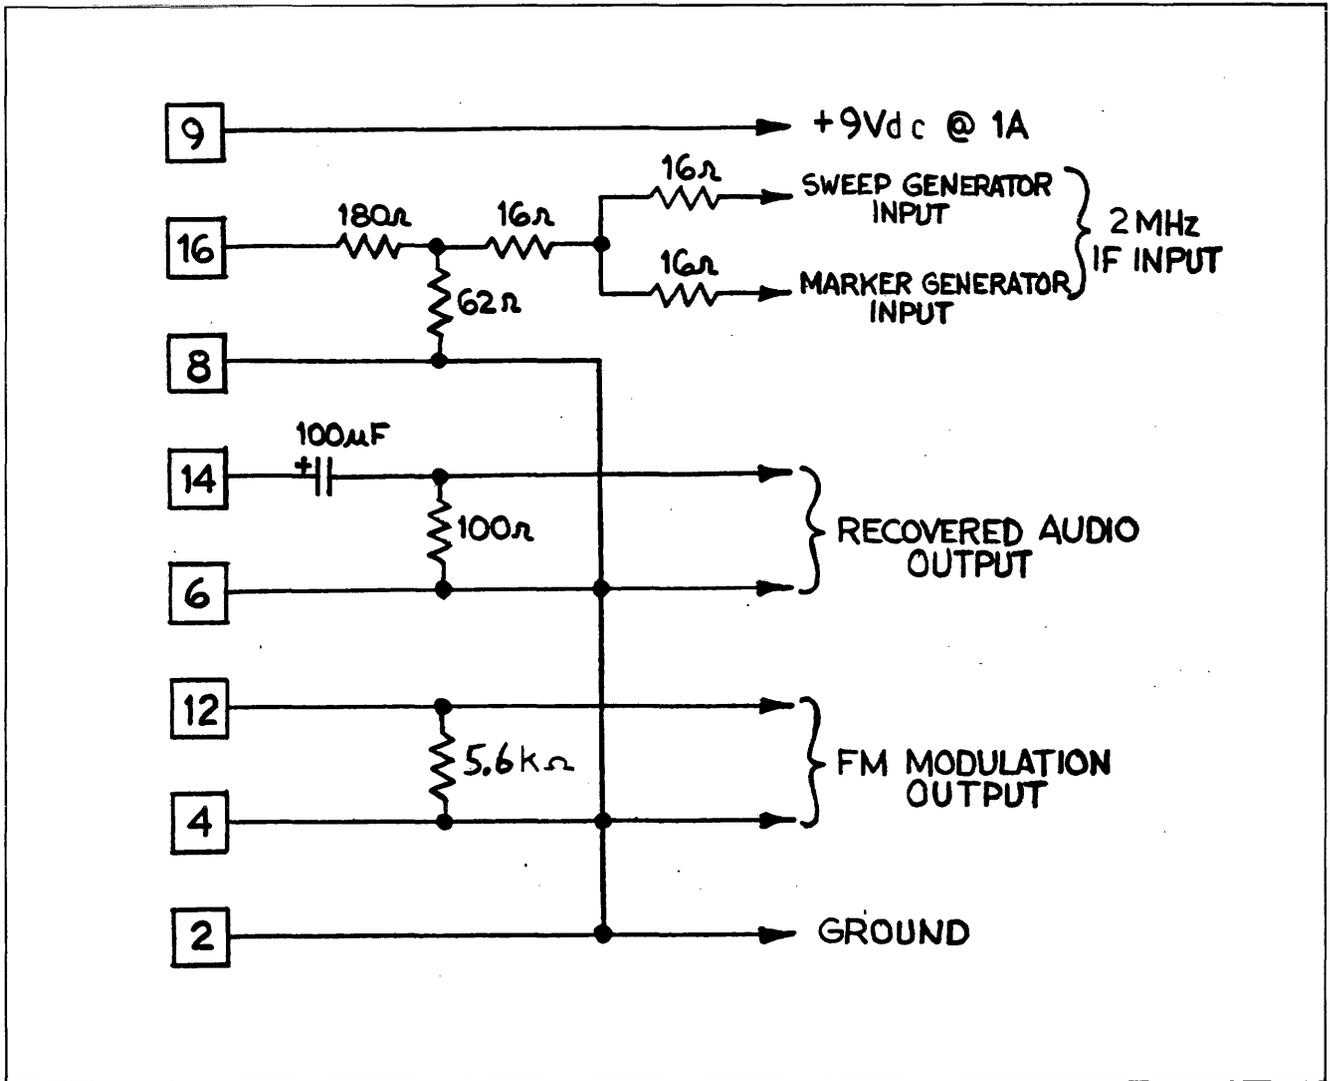

FIGURE 4-44A. TEST CONNECTOR SCHEMATIC, (ODM-1)
a. See Figure 4-44A for schematic of test connector wiring.